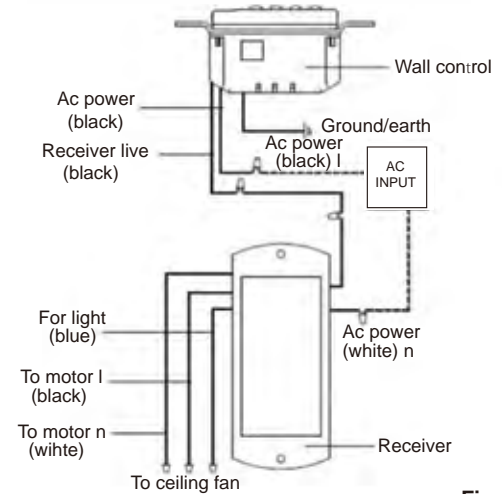

Fig. 33
- Step 2. Make the electrical connections as shown in Fig. 33. If your outlet box has a ground wire (Green or Bare Copper) connect the transmitter's ground wire directly to one of the screws from the outlet box. Secure all wire connections with the plastic wire nuts provides.